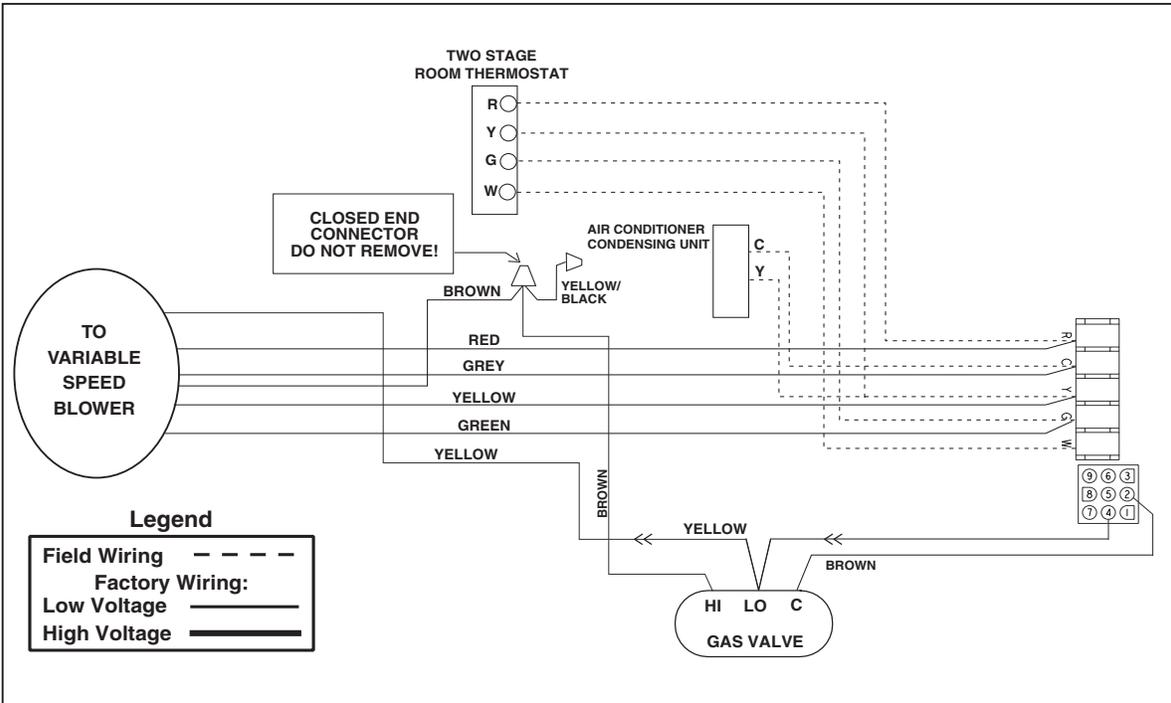

Figure 26c. Low Fire Only Configuration
3. *Low fire only configuration* – For this installation, the high terminal is disconnected (See Figure 26c). This defeats the staging feature and the furnace operates on low fire only. The furnace will run at reduced firing rate and the variable speed blower will operate at a lower speed.